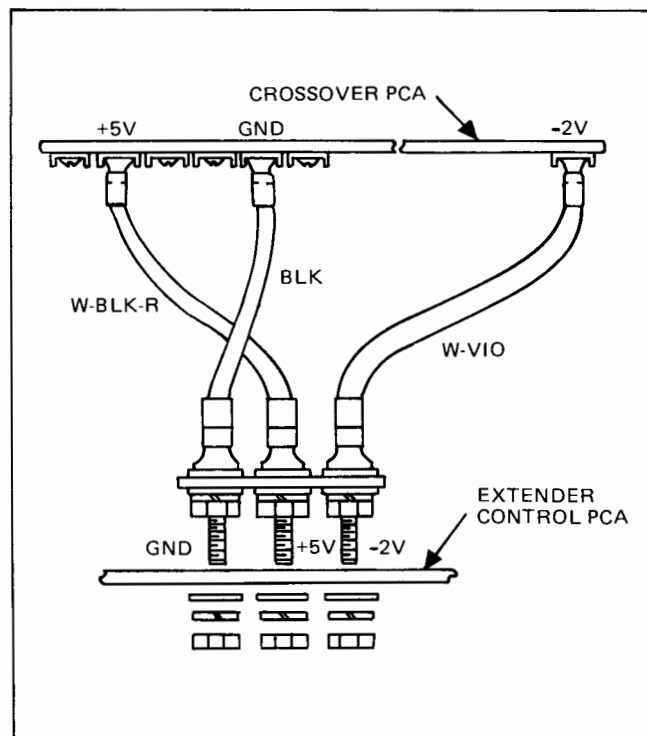

Figure 3-2. Extender Control Power Connections
- a. Remove the nuts and washers from power terminals located on PCA. (See figure 3-2.)
- a. Carefully insert power terminals through extender control PCA (figure 3-2) and secure terminals to PCA with the nuts and washers.